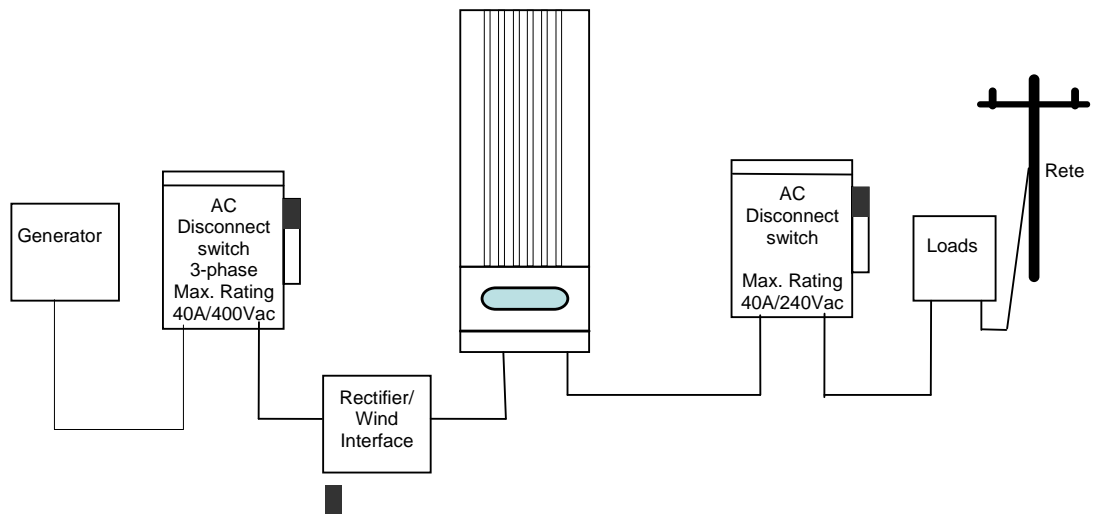

Fig.9. Wiring diagram
**NOTE:** In accordance with the typical assembly diagram (see Fig. 9) an AC disconnect switch with the overload protection (breaker) must be used to connect the AURORA inverter to the grid. Recommended ratings for the disconnect switch are 40A, 240VAC.